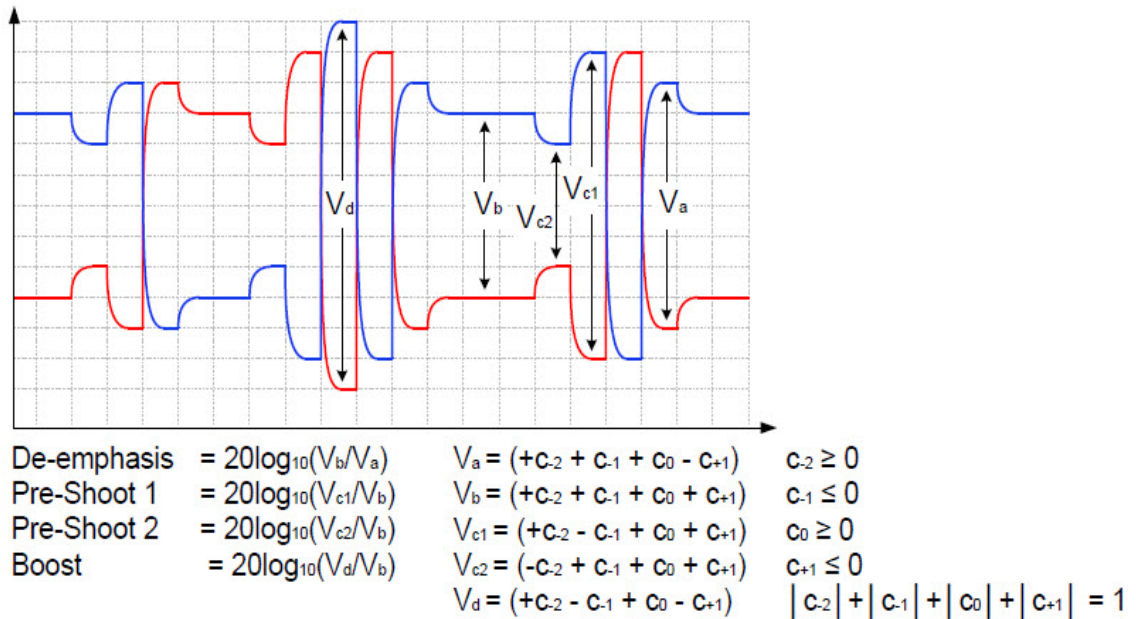

Figure 37 Waveform measurement points for preshoot and de-emphasis
64.0 GT/s PCIe signaling must support the full range of presets given in Table 8-2 (PCIe Base Specification Revision 6.0). Presets are defined in terms of ratios, relating the pre-cursor and post-cursor equalization voltages. The pre-cursor (Vc) is referred to as pre-shoot, while the post-cursor (Vb) is referred to as de-emphasis. This convention permits the specification to retain the existing 2.5 GT/s and 5.0 GT/s definitions for Tx equalization, where only de-emphasis is defined, and it allows preshoot and de-emphasis to be defined such that each is independent of the other. The tolerances in Table 8-1 (PCIe Base Specification Revision 6.0) also apply to 2.5 and 5.0 GT/s de-emphasis. The maximum swing, Vd, is also shown to illustrate that, when both c₊₁ and c₋₁ are nonzero, the swing of Va does not reach the maximum as defined by Vd. The high frequency nature of PCIe signaling makes measurement of single UI pulse heights impractical. Consequently all amplitude measurements are made with low frequency waveforms as shown in Figure 37.
- 13 Computes their equalization voltages by using Matlab, and then calculates equalization ratios by using the formulae stated in Figure 37 (Figure 8-6 of the spec).